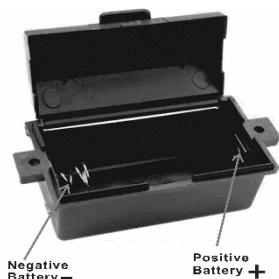

Figure.5
- The power for the automatic spark ignition is provided by a Type D 1,5V dry cell battery (see Fig 5). It is recommended to replace the battery every 6 months. The battery box is situated on the underside of the hob at the front edge. It has a hinged lid for easy access.